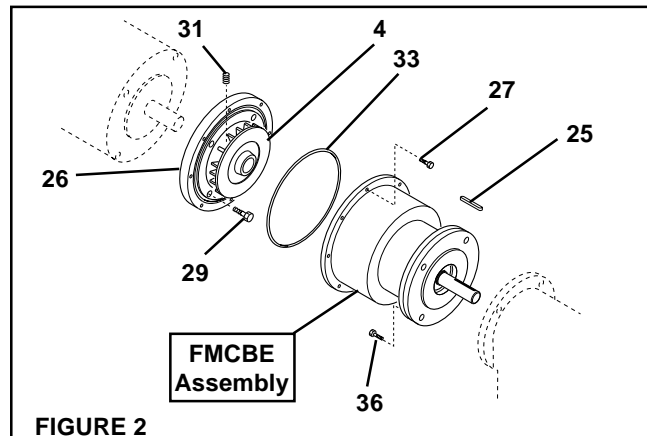

FIGURE 2
2. Slide the Female Pilot (Item 26) and the Drive Disc (Item 4) onto the motor shaft (See Figure 2).
4. Alternately and evenly tighten the four Hex. Head Cap Screws (Item 29) to 15 Ft. Lbs. [20.3 N•m] torque (See Figure 2).
5. Tighten the Set Screw (Item 31) to lock the Drive Disc (Item 4) onto the motor shaft (See Figure 2).
6. Coat the O-ring Seal (Item 33) and the seal contact surface with a film of O-ring lubricant, then wipe off any excess lubricant (See Figure 2).
7. Slide the O-ring Seal (Item 33) onto the seal diameter of the Female Pilot (Item 26) (See Figure 2).
8. Slide the FMCBE Assembly onto the Female Pilot (Item 26) and the Drive Disc (Item 4) (See Figure 2).
9. Using eight Nexen supplied 0.250-20 x 0.875" Hex. Head Cap Screws (Item 27), secure the FMCBE Assembly to the Female Pilot and Drive Disc (See Figure 2).
12. Using four Nexen supplied 0.375-16 x 1.500" Hex. Head Cap Screws (Item 36), secure the Male Pilot end of the FMCBE Assembly to the gear reducer (See Figure 2).